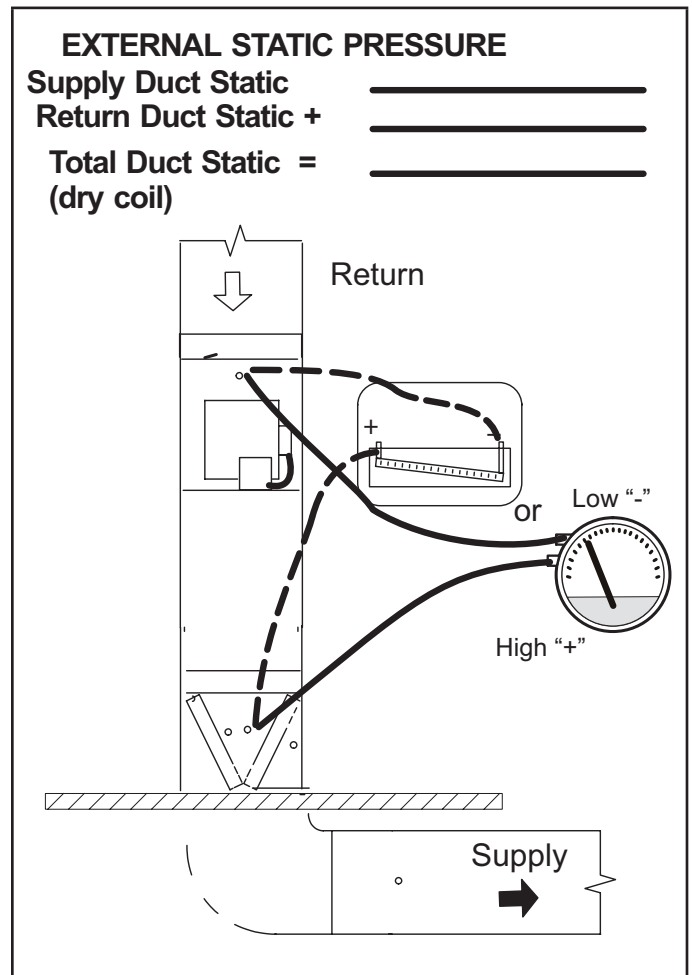

FIGURE 21
- 1 - Tap locations shown in FIGURE 21.